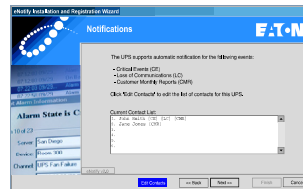

Figure 19. Verify Notification Contacts
- On the summary Notifications screen (Figure 19), verify that the notifications contact list is correct.